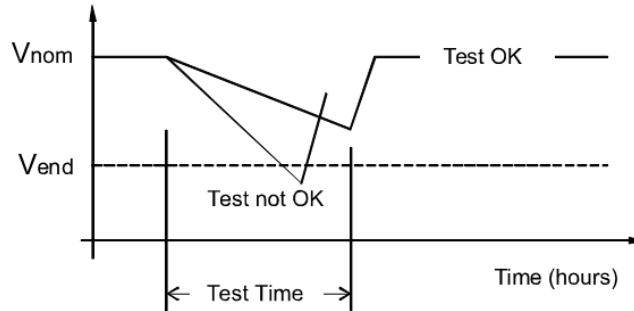

Figure 3 - Battery Test Diagram
- a. The preset test time (Figure 3) expires. The battery has passed the test.